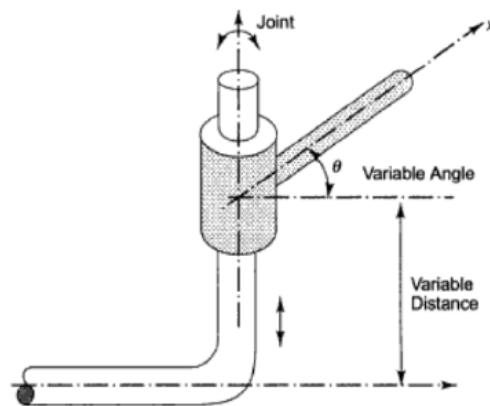

Fig. 1.8 Cylindrical pair (c)
- The cylindrical pair (C) illustrated in Figure 1.8